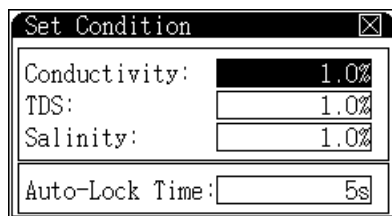

Figure 15 The Set Condition screen
- 4 The **Set Condition** screen appears on the display. See Figure 15.